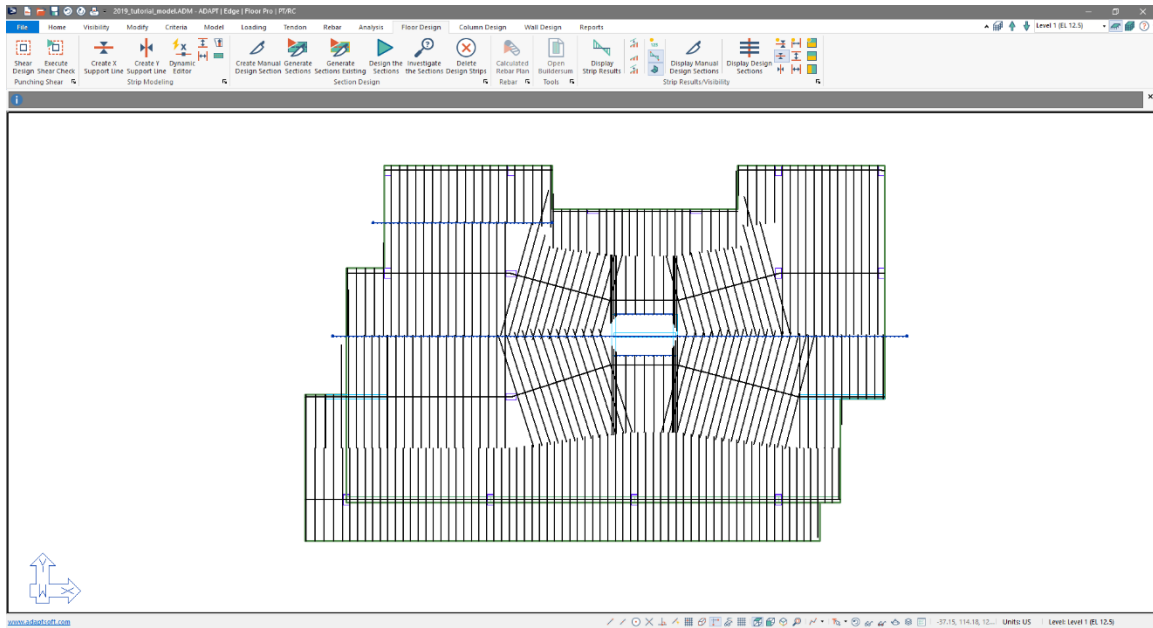

Figure 9-27
- Click **C** on your keyboard to close the splitter modeling. The user should now have a screen similar to **FIGURE 9-27**.